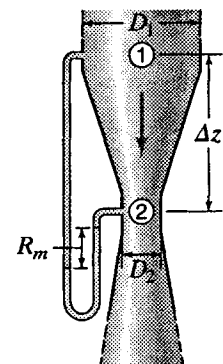

Figure S11.4
11.7.2 The venturi meter of Fig. S11.4 has $D_1 = 200$ mm, $D_2 = 100$ mm, and $\Delta z = 450$ mm. Assume the discharge coefficients of Fig. 11.19 are applicable. Find the flow rate of 20°C water when the manometer containing carbon tetrachloride ($s = 1.59$) reads $R_m = 100$ mm.